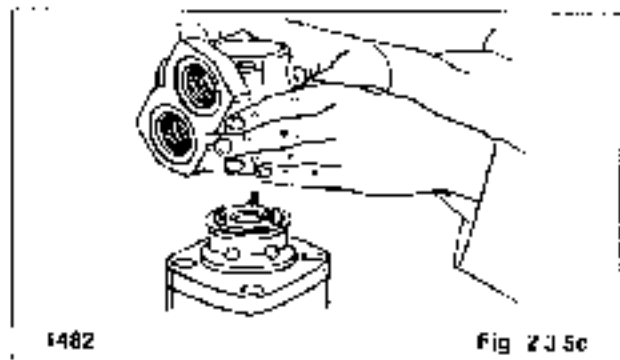

Fig. 2.3.5c
3. Carefully lift the valve housing straight up (fig. 2.3.5c). The balance ring subassembly and springs should remain on the valve.